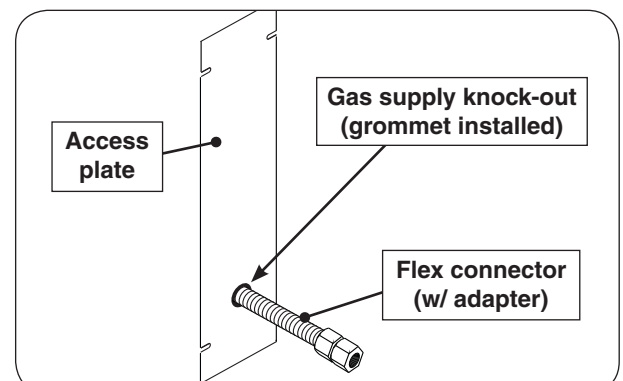

Fig. 19-4 Access plate view & install orientation
2. Remove the plastic grommet (attached to the flex connector) and insert it into the newly created opening. Then route the flex connector through the opening. See Fig. 19-4.